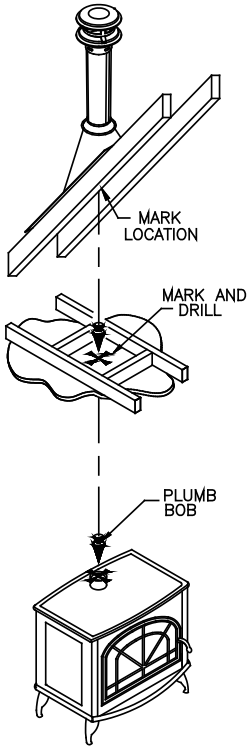

Figure 2
- B.** Drop a plumb bob to the center of the appliance flue outlet and mark center point on the ceiling (**Figure 2**). At your marked center point, cut and frame a square hole in the ceiling for installation of the Ceiling Support or Firestop Spacer (**Figure 3**). Refer to **Table 1** for the dimensions of the hole.